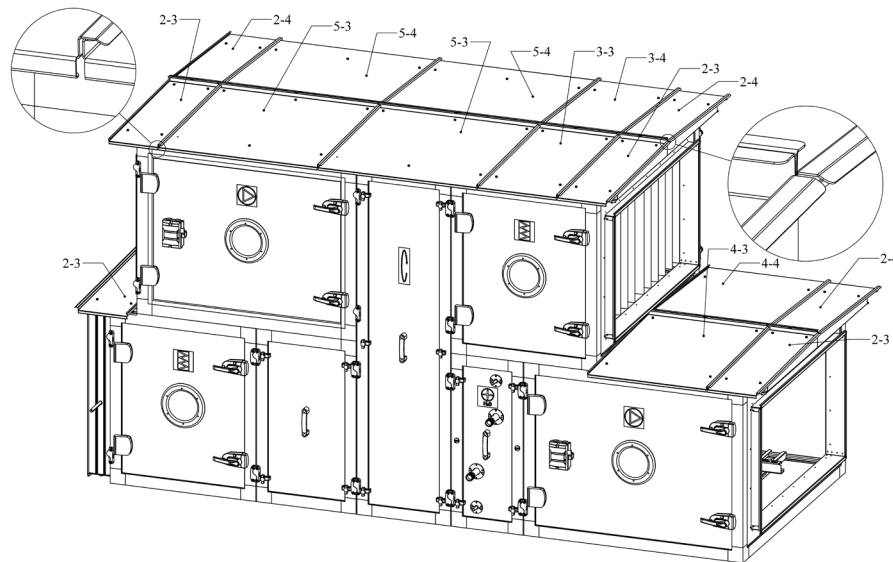

Figure 5.4
7. Fit the roof segments of a certain width with the same spacing of the frame and attach to the frame by self-taping screws supplied with the unit as shown in Figure 5.4.